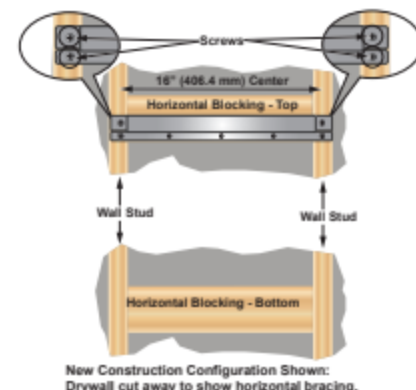

Figure 5 - Wall Bracket Installation
**1** Secure the wall mounting bracket with the four supplied lag bolts to the wall studs. See Figure 5. **DO NOT** secure to drywall only.